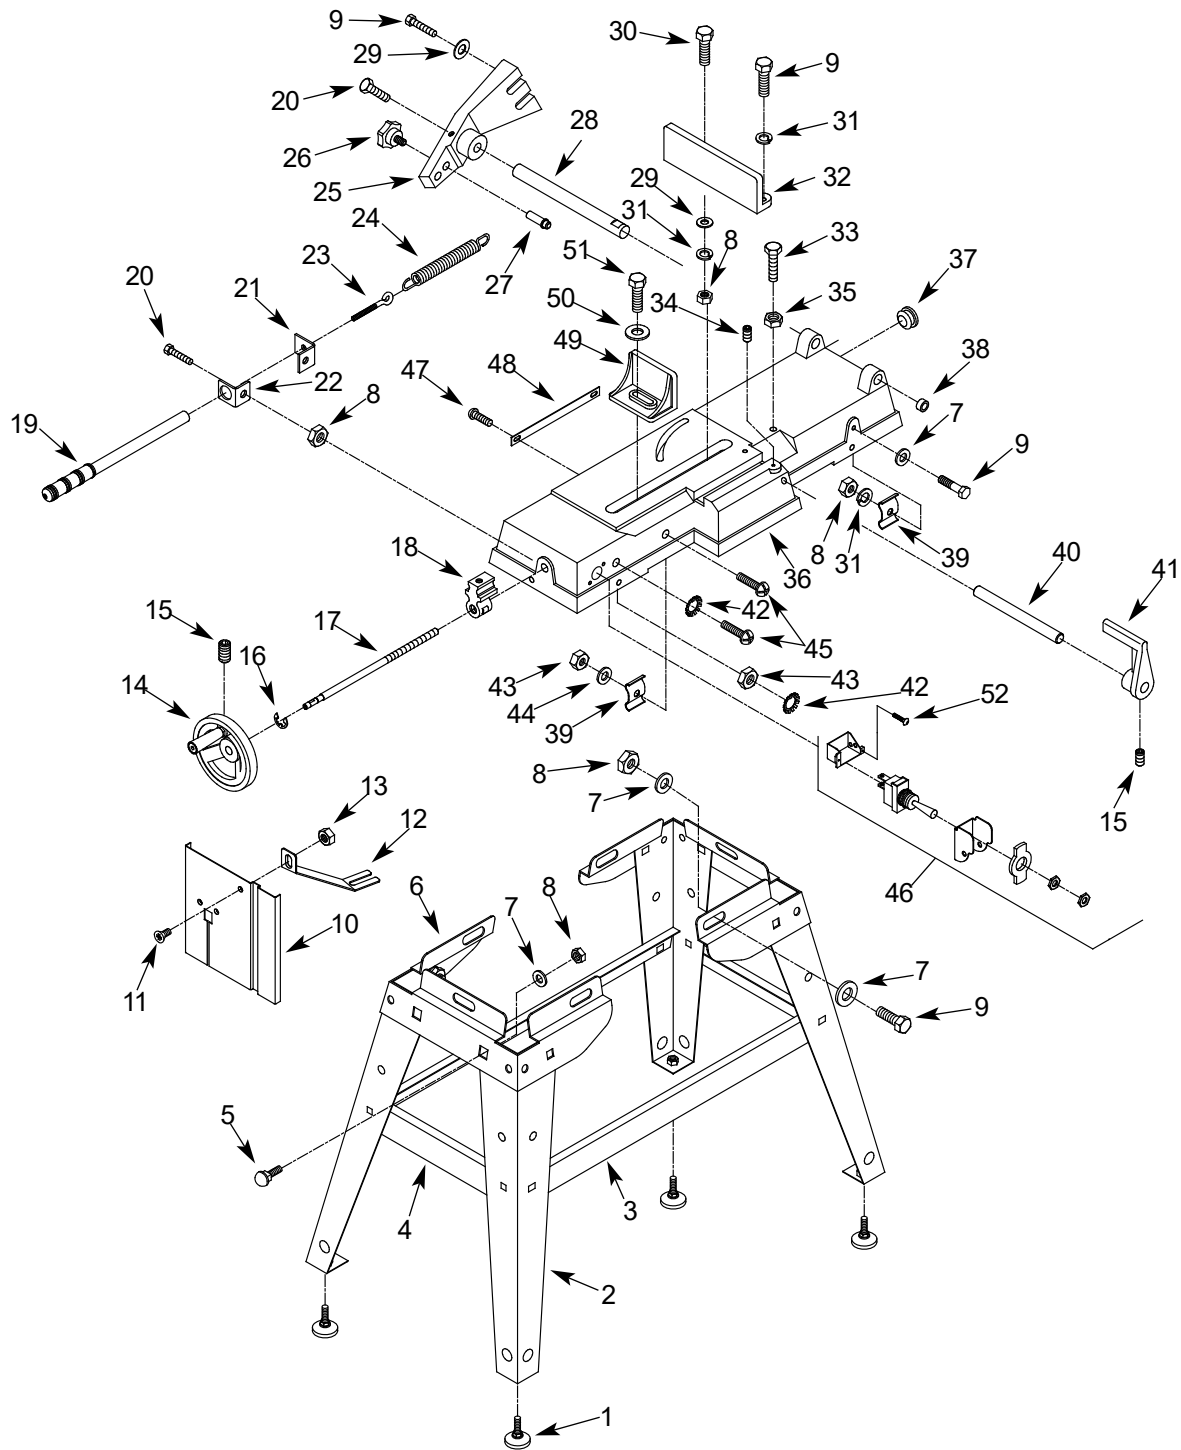

Figure 14 – Repair parts illustration for base and stand
Refer to Figure 14, page 14.
Refer to Figure 14 and 15, pages 14 and 16.
- To secure the head to bed for transport, push knob into bed (Figure 14, Ref. No. 26).
Refer to Figures 14 and 15, pages 14 and 16.
- Grease the vise lead screw (Figure 14, Ref. No. 17) if vise action becomes difficult.